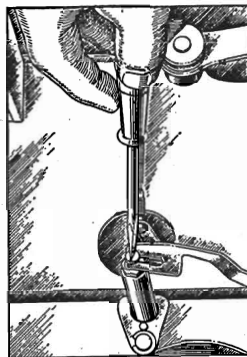

Figure 12—Adjusting height of elevator shaft
- (b) Improper adjustment of elevator shaft. The elevator shafts should rise to such a height as to give $\frac{1}{16}$ " clearance between the lowest surface of the elevator pad bottom and the top of the empty magazine. This adjustment can be made by means of the screw and the lock nut as shown in Figure 12.
(8) FAILURE TO TRIP ON ECCENTRIC GROOVE